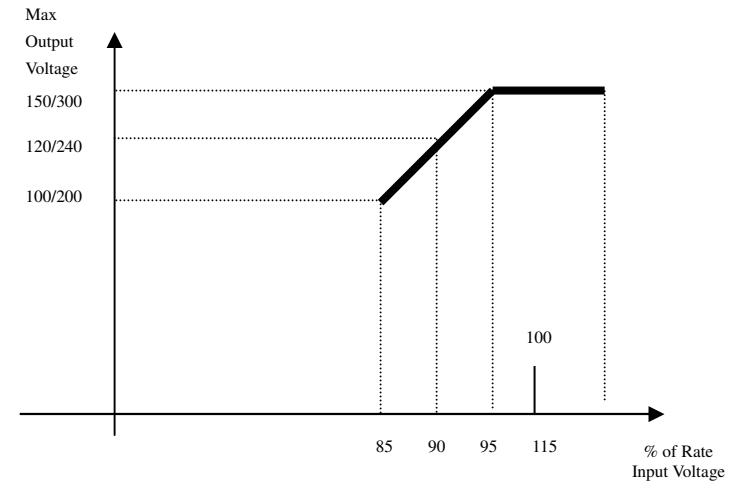

Figure 1
- 4) Please make sure the input tolerance is within $\pm 10\%$ of rated voltage (see figure 1).